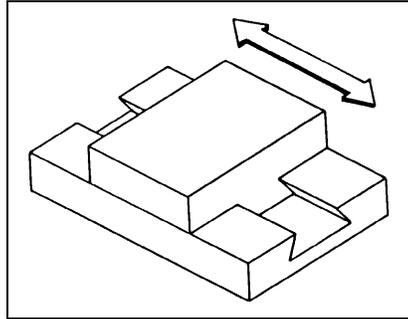

Figure 1-10
- ◆ **Prismatic Joints:** A prismatic joint permits one link to slide inside the other, as in a telescoping radio antenna on a car. The relative motion between the links is along a straight line, as shown in Figure 1-10.